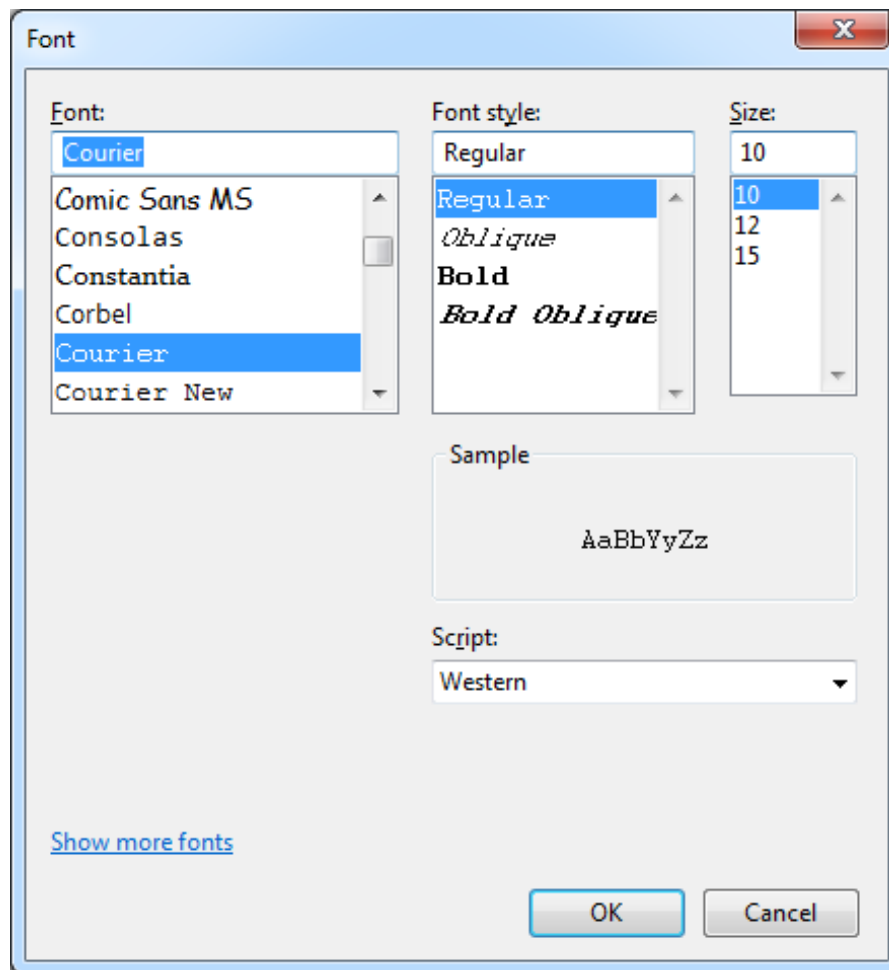

Figure 44 Defining the font for Notepad.
2. Choose “Font...” through the Format menu. The dialogue is shown in figure 44.
3. Choose the font Courier, Font style Regular and Size 10 as in figure 44. Now Click OK and exit Notepad. Notepad will use the font Courier, size 10 regular.